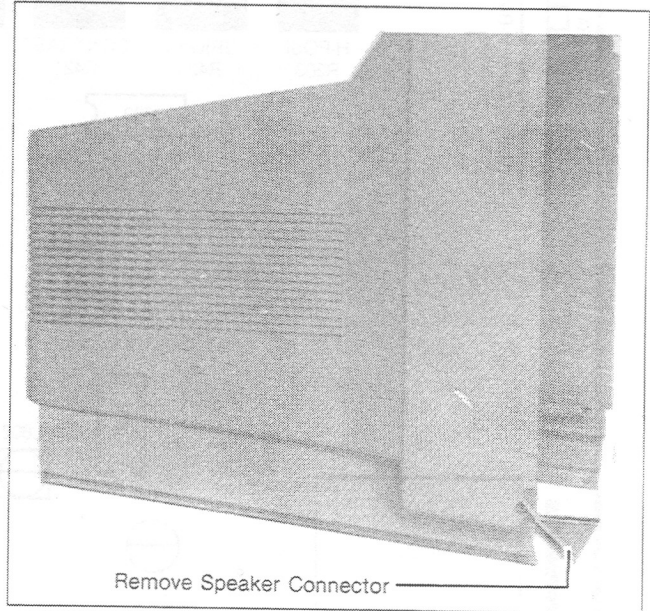

Fig. 4
3. Remove (pull to the rear) the speaker connection near the radio output at the left side of the cabinet. (See Fig. 4)